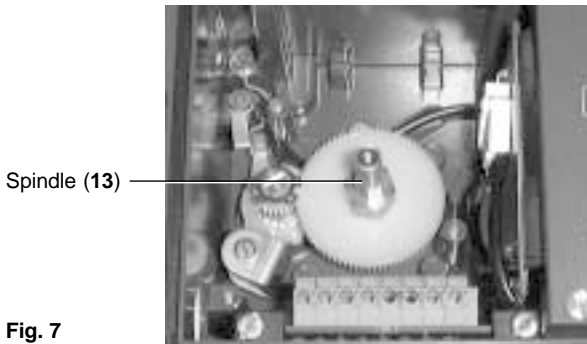

Fig. 7
- 2.3.5** Screw new spindle (13) onto existing central pin (refer to Fig. 7) using a 7 mm spanner.